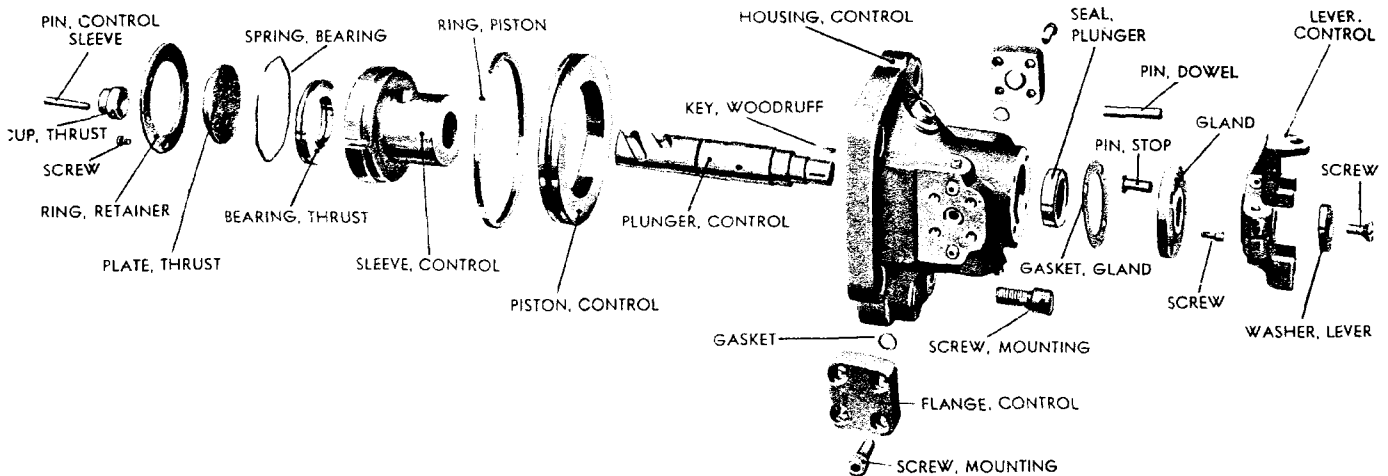

Figure 5. Pump Hydraulic Servo-Motor Lever Control, Assembly, Exploded View
D. HYDRAULIC SERVO-MOTOR LEVER CONTROL UNIT. (See Figs. 5 and 12.)
1. HOUSING REMOVAL. Control housing (300) and associate parts can be removed for inspection without removing pump from reservoir. Remove screws (300A) and pull housing (300) and associate parts out carefully to avoid bending control sleeve pin (307A) in slideblock (82). Pull out sleeve (307), control piston (301) and associate parts.
2. BEARING INSPECTION. To inspect bearing (305), remove screws (308A), retainer plate (308), and thrust plate (304).
3. PLUNGER SEAL INSPECTION. If inspection of oil seal (310) is necessary, remove screw (317) and washer (316). Loosen lever clamping screw (324) enough to slip lever (315L or R) off plunger (309). Remove key (313), screws (312A) and gland (312). Slip plunger (309) out the short way.
4. ASSEMBLY. Reassemble parts in reverse order of that used for disassembly. When inserting plunger (309) in housing (300), be careful not to damage seal (310) and be sure it does not hook on plunger shoulders. Be sure to insert the same number and thickness of shims (311 and 311A) between gland (312) and housing (300). When tighten-
5. CHANGING CONTROLS. To change a port pump to a starboard pump or vice versa, it will be necessary to remove hydraulic servo-motor lever control unit (Fig. 5). See paragraph VI-D-1. Use a hardened steel screw to jack cup (303) out of slideblock (82). Remove head (94) and small piston assembly (62). See paragraph VI-E-1. Tap cup (303) into opposite side of slideblock (82). Mount both assemblies on opposite sides of pump. When properly assembled, operate pump and test to see if slideblock and stroke indicator stem (88) move to neutral position when lever (315L or R) is in Position II. If not, remove screw (317), lever (315L or R), key (313) and gland (312). Add or remove shims (311 and 311A) to suit, and continue adjusting until the proper control action is obtained.